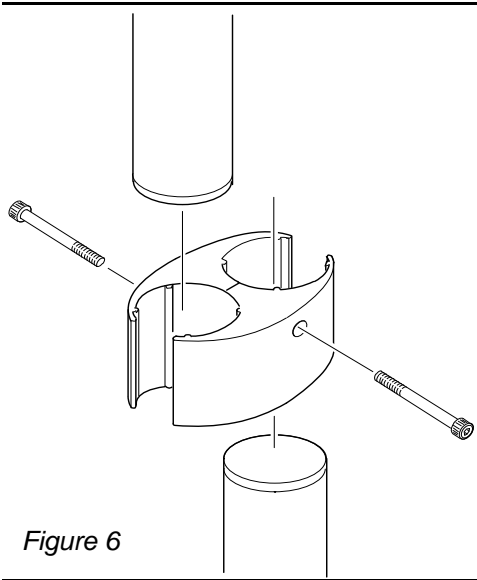

Figure 6
6. To install the light post extension (Figure 6, next page):